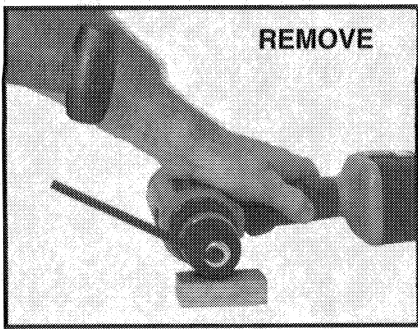

Fig. 9
5. Place the short end of a large allen wrench (1/4" or larger) into the chuck. Align wrench flats with chuck jaws and tighten chuck securely. While supporting chuck on a solid surface, position allen wrench to left (see Fig. 9) and strike wrench a sharp blow with a hammer to loosen chuck. Turn chuck counterclockwise to remove.